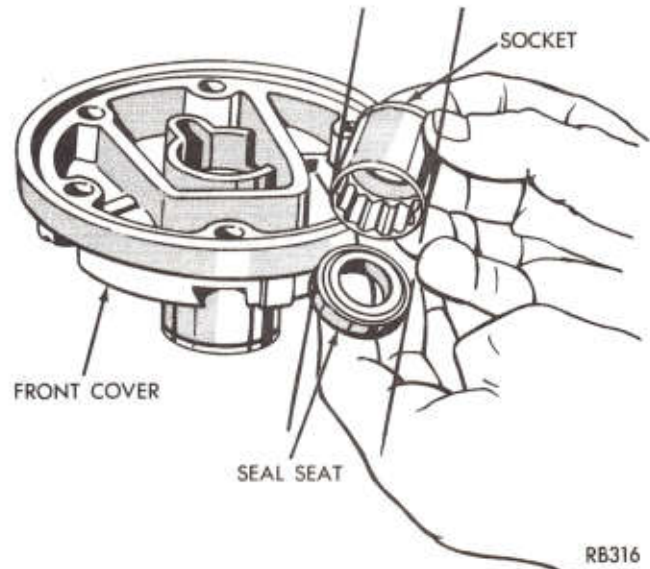

Fig. 14—Match Socket to Outer Seal Diameter
- (17) Lubricate crankshaft seal seat cavity of front housing with refrigeration oil.
- (18) Lubricate crankshaft seal seat and seal seat O-ring with refrigeration oil. Install O-ring on seal seat and install seal seat in front cover using a socket that contacts the outer diameter of the seal seat plate (Figs. 14 and 15).
- (19) Lubricate front cover O-ring with refrigeration oil and carefully place it in seal groove of front housing.
- (20) Carefully install front cover to front compressor body. If cover does not visually align with dowel